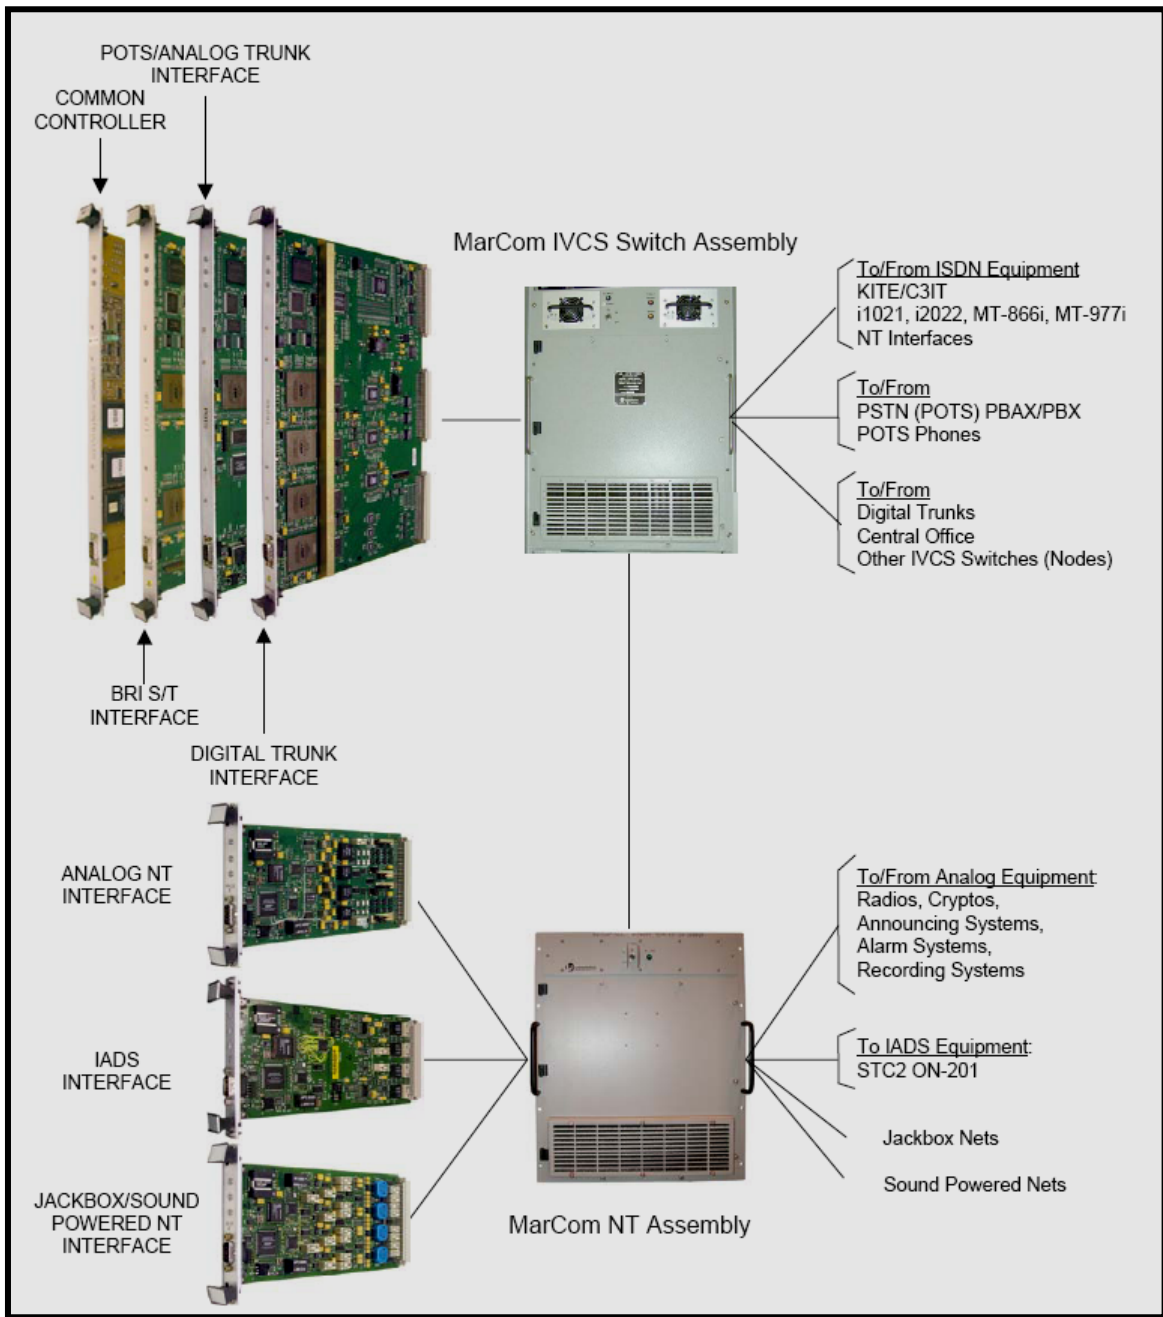

Figure 6-67.—MARCOM System Architecture Components.
The MarCom IVCS consists of four primary elements. They are the MarCom Switch Assemblies, the MarCom Network Termination (NT) Assemblies, a set of user terminals/instruments, and the System Administration Terminal (SAT). These elements are utilized in varying quantities to complement other shipboard equipment and systems, which include PBXs, Announcing and Alarms, Sound Powered Nets and Radio Communication circuits. Figure 6-67 shows pictures of the IVCS switch, NT and Integrated Terminal components.